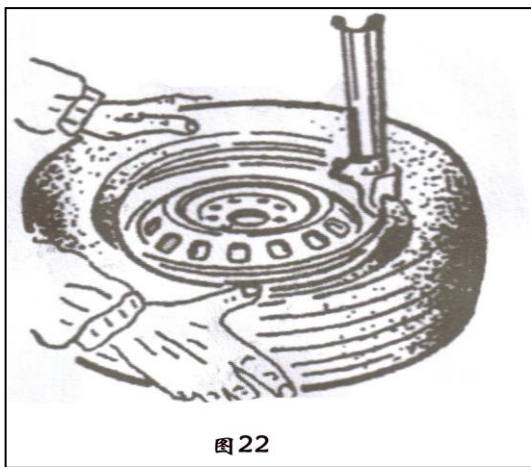

FIG 22
4.2.3 If there is tube, place it in the tire and plug the core. And assemble the lip according to the above-mentioned step (FIG22). In the process of clamping the rim, do not reach your hands in between the rim and the claw to avoid the damage to the personnel.
When inflating the tire, please be carefully and series obey the operation process. Check the air route to see if the air connection is OK. This machine is equipped with an inflation gauge for monitoring the inflation of the tire and the inflation pressure (FIG22) .